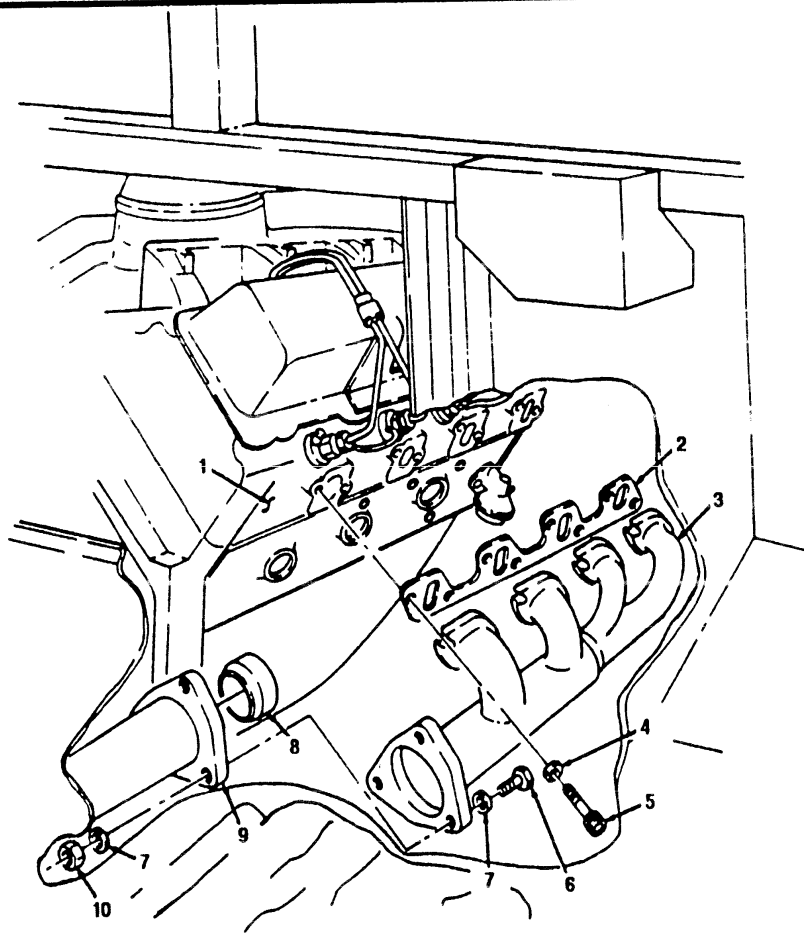

FIGURE 3-12
1. Remove three locknuts (10), capscrews (6), and washers (7) from exhaust manifold (3) and crossover pipe (9). Discard locknuts (10). (see figure 3-12)
2. Using hex-head driver, remove eight socket-head screws (5) and washers (4) from exhaust manifold (3) and cylinder head (1).
3. Remove exhaust manifold (3) and gaskets (2) and (8). Discard gaskets. (see figure 3-12)
1. Install gasket (2) and exhaust manifold (3) to cylinder head (1) with eight socket-head screws (5) and washers (4). Tighten socket-head screws (5) to 25-33 lb-ft (34-45 N•m). (see figure 3-12)
2. Install exhaust manifold (3) to crossover pipe (9) with gasket (8), washers (7), three capscrews (6), and locknut (10). Tighten locknuts (10) to 37 lb-ft (50 N•m).